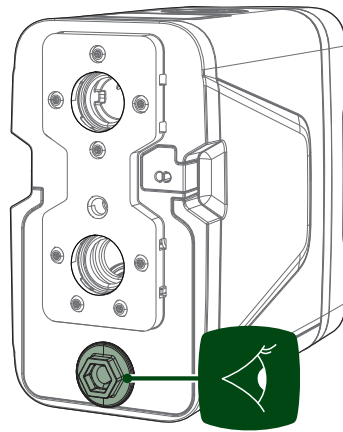

Fig. 14 Drain cap
7. Proceed to completely empty the pump by carefully unscrewing and removing the drain plug (see Fig. 14 Drain cap). If the fill cap (NRV) is removed or sufficiently loosened during the operation, see Fig. 10 Filling – Correct position of NRV cap, the pump and the entire delivery duct will drain more easily;